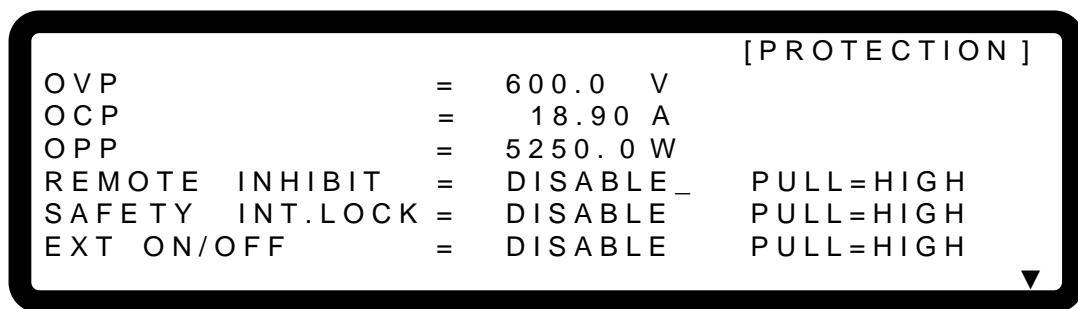

Figure 3-75
- Use the “”, “” keys to move the cursor to the column to be set as shown in Figure 3-75.